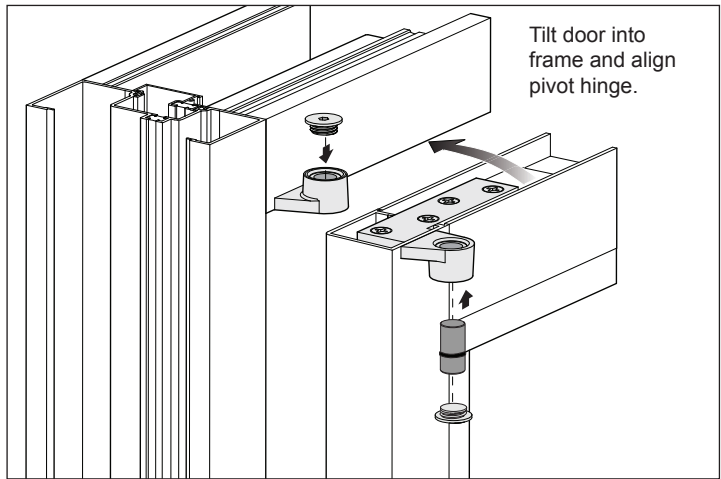

FIG. 10
6. Tilt door panel into the frame and align the pivot halves together. Join the hinge with the Pivot Pin followed by the Dust Cover. **(Fig. 10)**